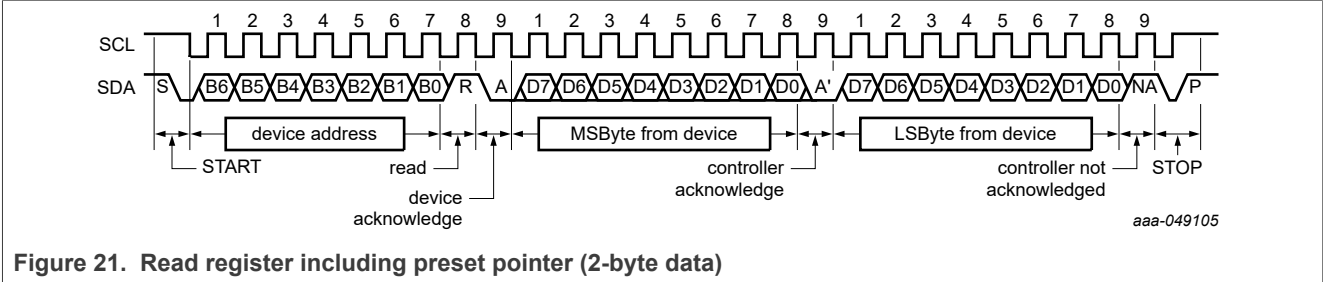

Figure 21. Read register including preset pointer (2-byte data)
14. For best temperature accuracy both temperature bytes should be read as shown in Figure 20 and Figure 21, but for a quick less accurate check/reduce bus transmission then only one byte, the MSByte, needs to be read as shown in Figure 18.